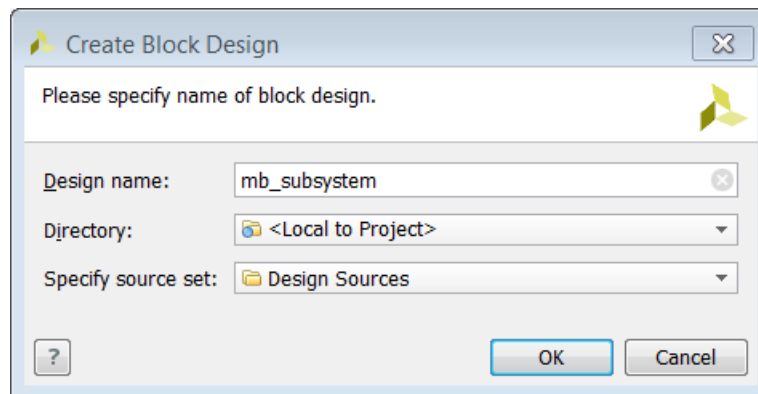

Figure 85: Name Block Design
4. Click **OK** in the Create Block Design dialog box, shown in Figure 85.